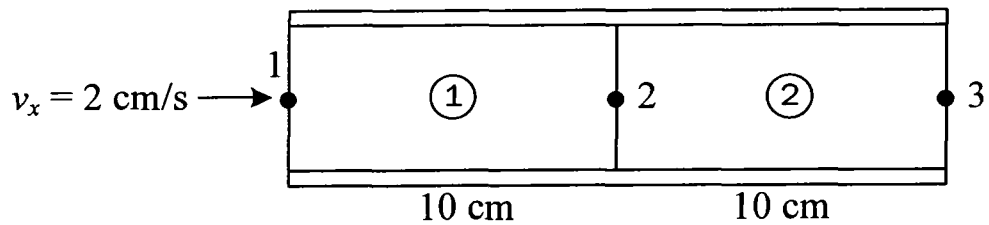

Figure Q6[a]
- Q6. [a] For the smooth pipe shown discretized in Figure Q6[a] with uniform cross section of 1 cm^2 , determine the flow velocities at the center and right end, knowing the velocity at the left end is $v_x = 2 \text{ cm/s}$.